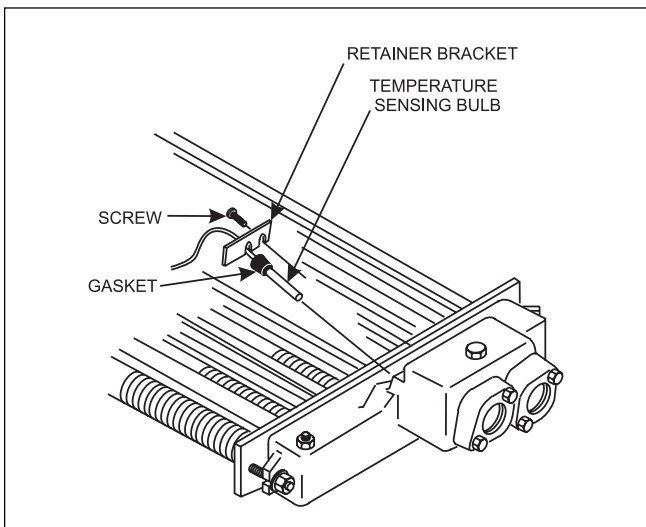
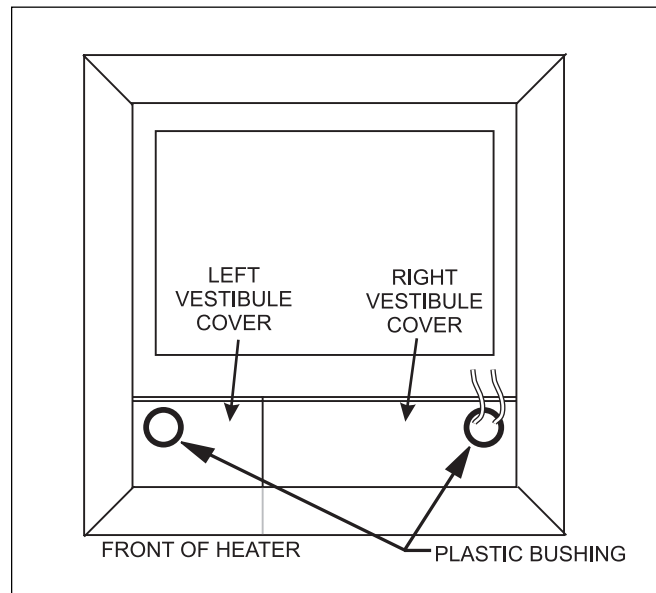

Figure 9. Temperature sensing bulb
Figure 10. Vestibule covers
7. Tag and disconnect the white wire on the pressure switch (PS) and the white wire from the fusible link.
10. Loosen the screw securing the temperature sensing bulb retainer bracket. Slide the retainer bracket off the bulb flange and remove the bulb from the header (see Figure 9). Pull pressure switch tube through the hole in the vestibule cover and into the vestibule (controls compartment), then pull the thermostat bulb assembly through same hole (see Figure 10).